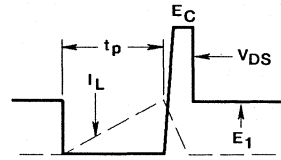

FIGURE 15. CLAMPED INDUCTIVE WAVEFORMS
- $V_{DD} = 50\text{V}$, starting $T_J = +25^\circ\text{C}$, $L = 380\mu\text{H}$, $R_{GS} = 25\Omega$, $I_{PEAK} = 14\text{A}$. See Figure 15.
4. $V_{DD} = 50\text{V}$, Start $T_J = +25^\circ\text{C}$, $L = 380\mu\text{H}$, $R_{GS} = 25\Omega$, $I_{PEAK} = 145\text{A}$ (See Figure 15)